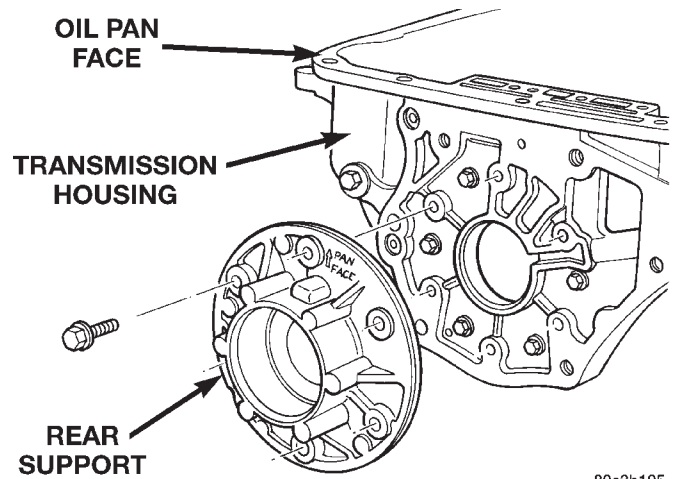

Fig. 94 Rear Support
(15) Hold low-reverse drum in position so rear support will not push it out of overrunning clutch.
(16) Insert rear support into opening at rear of transmission case (Fig. 94).